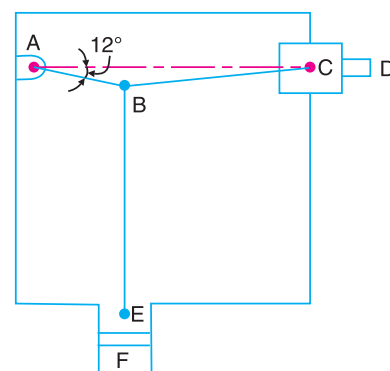

Fig. 7.42
12. A riveter, as shown in Fig. 7.42, is operated by a piston F acting through the links EB , AB and BC . The ram D carries the tool. The piston moves in a line perpendicular to the line of motion of D . The length of link BC is twice the length of link AB . In the position shown, AB makes an angle of 12° with AC and BE is at right angle to AC . Find the velocity ratio of E to D . If, in the same position, the total load on the piston is 2.2 kN, find the thrust exerted by D when the efficiency of the mechanism is 72 per cent,